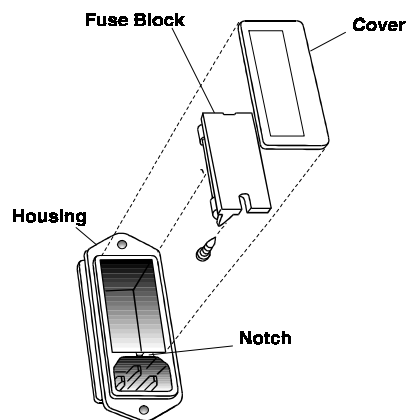

Figure 4-1: Removing Fuse Block from Housing
1. Place small screwdriver in notch, and pry cover off, as shown in Figure 4-1.
4. Reassemble Housing as shown in Figure 4-1.